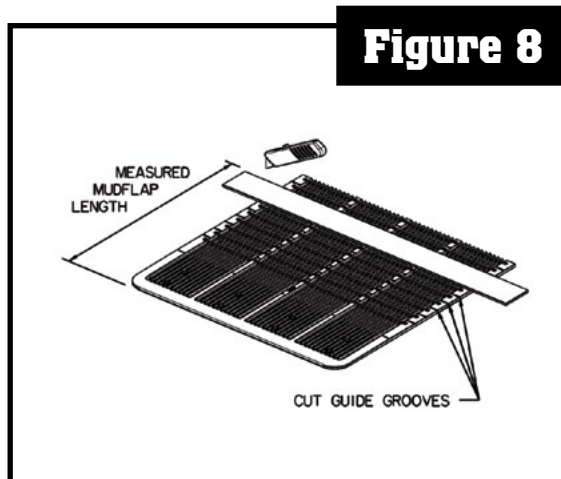

Figure 8
9. Lay MUDFLAP down with grooved side up on flat surface. Measure desired MUDFLAP length from the bottom up. Find the nearest pre-molded CUT LINE GROOVE and mark. *Figure 8.*
10. Use a sharp utility knife to cut through MUDFLAP using the groove and a straight edge as a guide. This may take several passes to completely cut through MUDFLAP. *See Figure 8.*